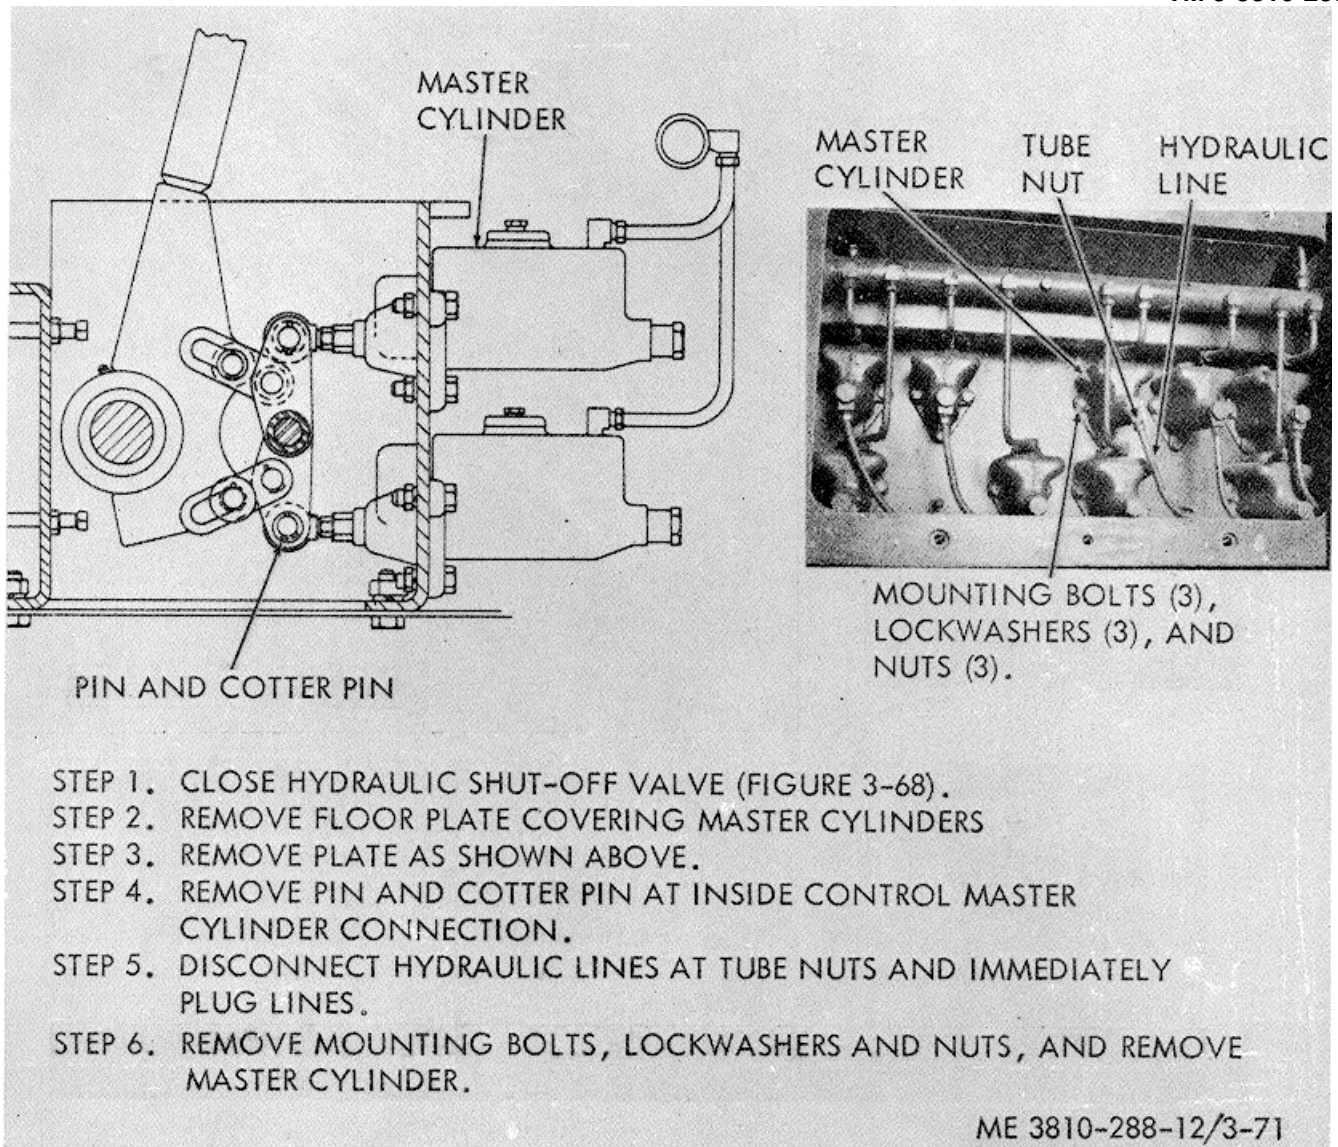

Figure 3-71. Master cylinders, removal and replacement.
d. *Master Cylinders.* Refer to figure 3-71 and remove and replace a faulty *master* cylinder. Use the same procedure for all master cylinders.